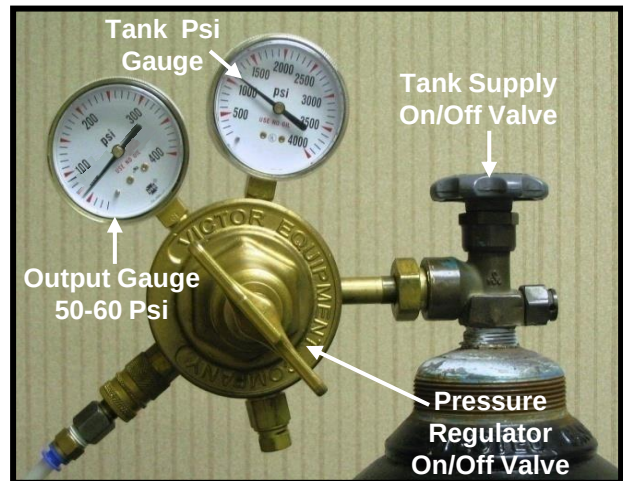

Figure 4
7.2.2 For tube span runs less than 500 feet in length, adjust Pressure Regulator Valve to supply something less than 60 Psi Air Flow pressure to the tube span; suggest starting with 50 Psi. Short tube span runs typically do not need high Air Flow Pressures to blow in the Fiber Bundle. Additionally, using lower pressures helps save the gas supply. **See Fig. 4**
9.4 Adjust the Air Flow Pressure during Fiber Bundle installation, be prepared to increase / decrease Air Flow pressure by adjusting the Pressure Regulator Valve. Make all pressure adjustments in small increments (about 5 Psi at a time). **Refer to Fig. 4**